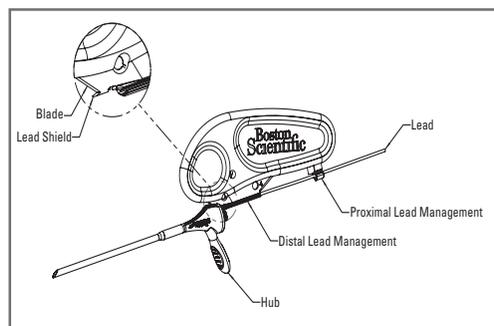

Figure 6.0 – Image of cutter engagement
The ACUITY Universal Cutter (Figure 6.0) is a tool used to cut-away guide catheters following implantation of left ventricle (LV) leads in the coronary venous vasculature.
1. Attach the cutter to the proximal lead body by snapping it into the distal lead management groove. Attach the lead to the proximal lead management hook of the cutter by rolling the lead into the hook. (See Figure 6.0 for cutter attachment)